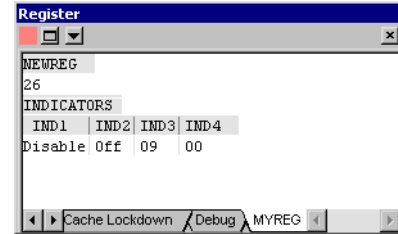

Figure 3-33 MYREG in the Register pane
2. Select **View** → **Registers** to view the new tab, **MYREG**, shown in Figure 3-33 on page 3-56.